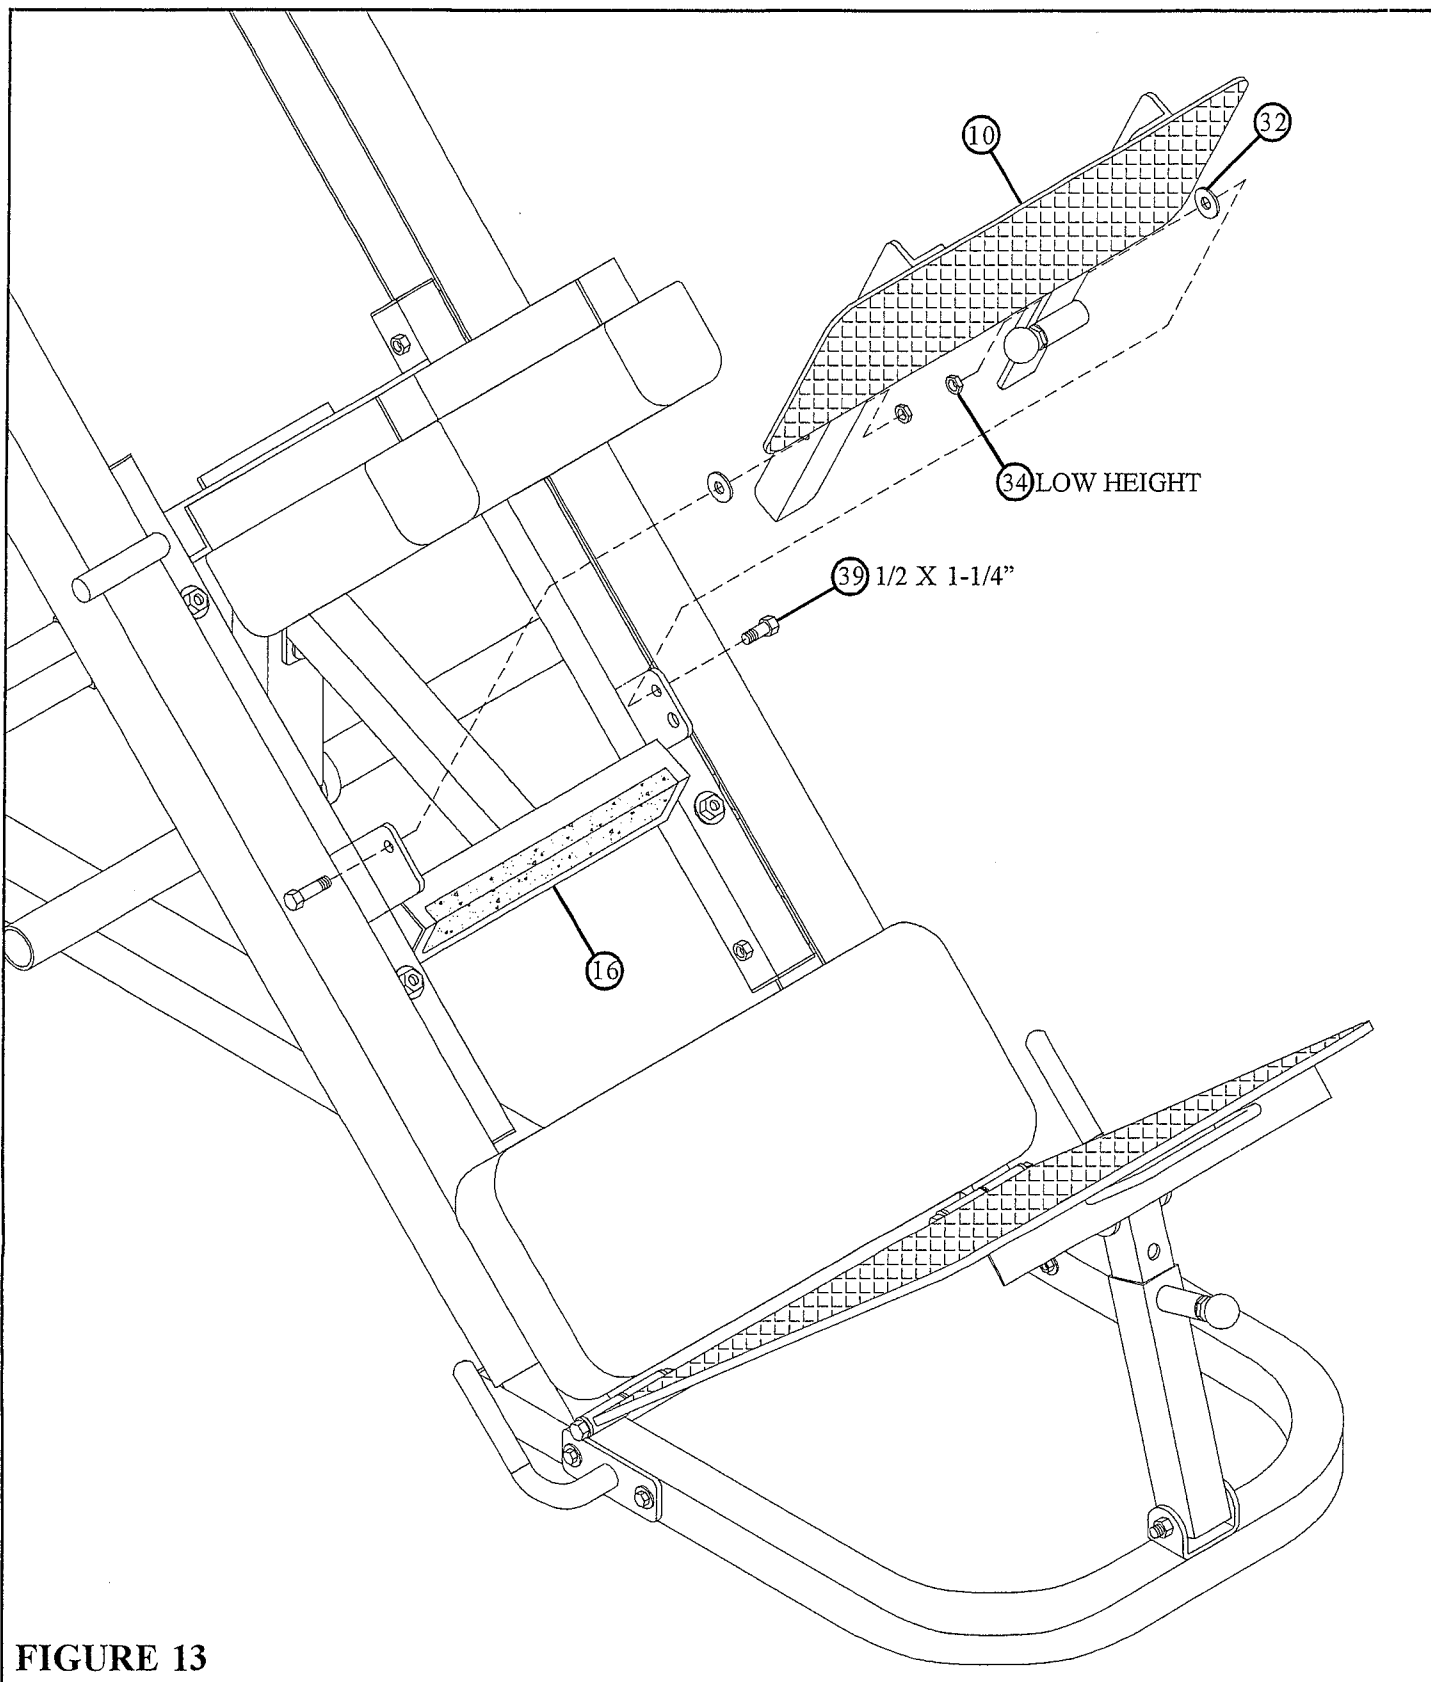

FIGURE 13
- Assemble the FOOT PLATE (10) to the CARRIAGE (16) as shown in FIGURE 13, using two 1/2 X 1-1/4" BOLTS (39), two 1/2" WASHERS (32), and two 1/2" LOW HEIGHT LOCK NUTS (34). **(TIGHTEN THE CONNECTION COMPLETELY, THEN BACK THE NUTS OFF 1/4 TURN)**